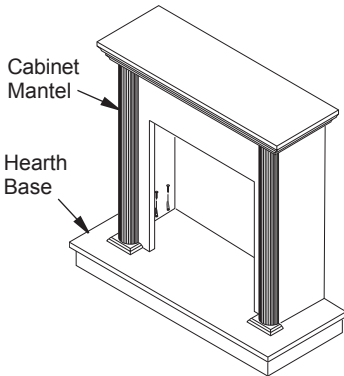

**Figure 12 - Placing Hearth Base Against Wall**
Built-in installation of this fireplace involves installing fireplace into a framed-in enclosure. This makes the front of fireplace flush with wall. An optional brass trim kit accessory is available (see *Accessories*, page 44). Brass trim will extend past sides of fireplace approximately 1/2". This will cover the rough edges of the wall opening. If installing a built-in mantel above the fireplace, you must follow the clearances shown in Figure 12, page 12. Follow the instructions below to install the fireplace in this manner.
2. If blower is installed, install a properly grounded, 120 volt three-prong electrical outlet at fireplace location if an outlet is not there. If possible, locate outlet so cabinet mantel will cover it when installed (see Figure 12).
3. Place hearth base against wall at installation location. Cut an access hole in hearth base to run gas line to fireplace (see Figure 12). Make sure to locate access hole so cabinet mantel will cover it when installed. **Note:** You can secure base to floor using wood screws. Countersink screw heads and putty over.